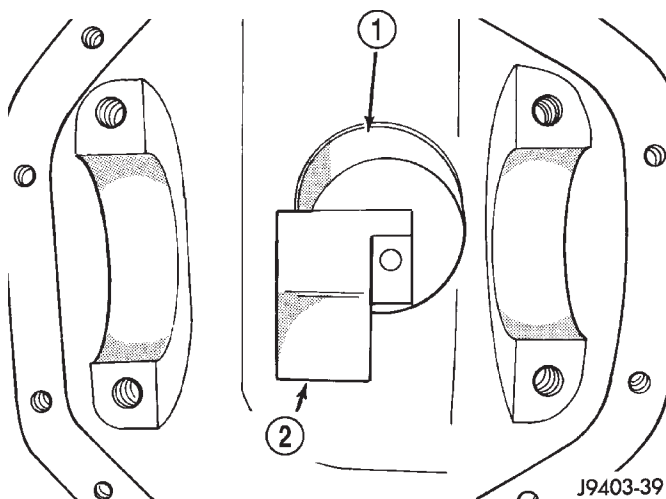

Fig. 54 Pinion Height Block—Typical
(2) Insert assembled height gauge components, rear bearing, and screw into axle housing through pinion bearing cups (Fig. 54).